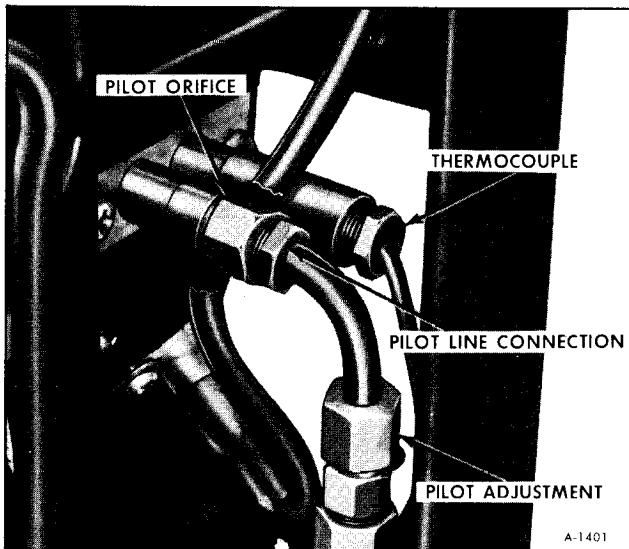

Figure 35—Pilot Orifice
2. Disconnect pilot line at pilot orifice (See figure 35).
3. Remove the pilot orifice (figure 35).
2. Connect the pilot gas line, at pilot orifice (See figure 35).